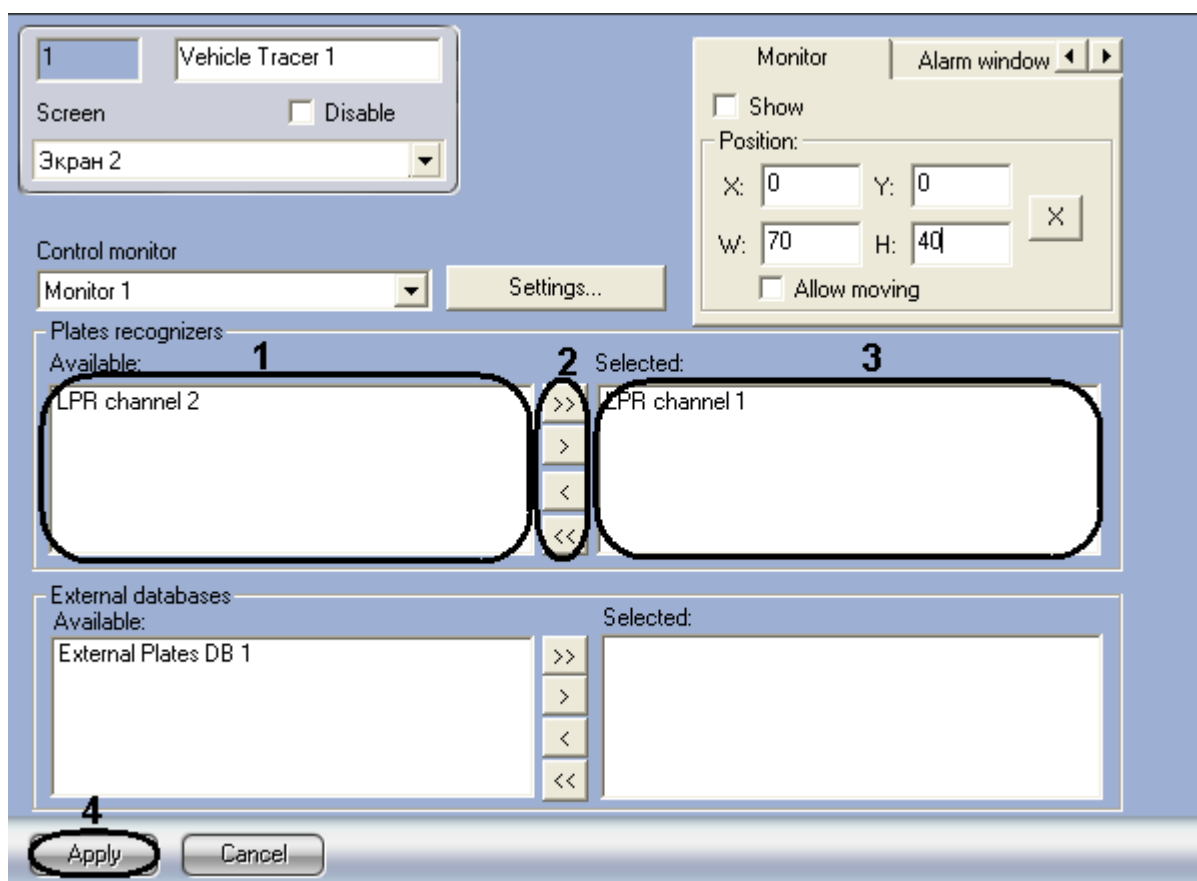

Fig. 7.9—6 LP recognizers servers selection
1. Go to the «Vehicle tracer» settings panel (Fig. 7.9—6).
2. Select the required LP recognition servers from the list Available of the Plates recognizers group (Fig. 7.9—6, 1).
3. Move the selected LP recognizers servers to the list Selected of the Plates recognizers group, clicking the « > » button (or « >> » button for moving all the LP recognizers servers from the list) (Fig. 7.9—6, 2-3).